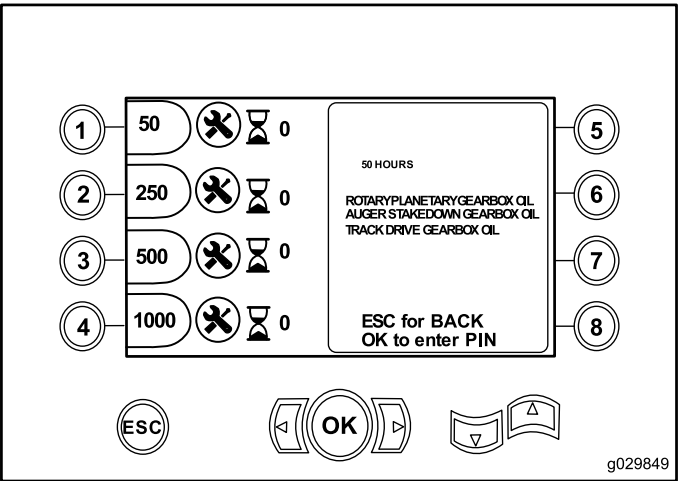

Figure 11
- Button 1—50-hour maintenance schedule (Figure 11)